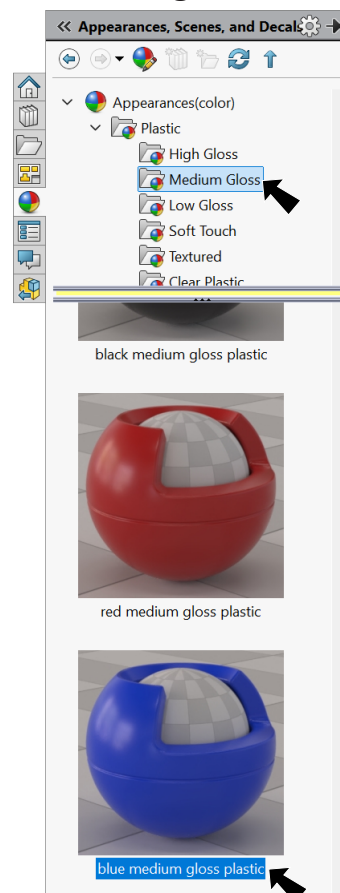

Fig. 76
Step 3. In the Appearances Task pane, expand **Plastic**, click **Medium Gloss** and in the lower pane select **blue medium gloss plastic**, Fig. 76.